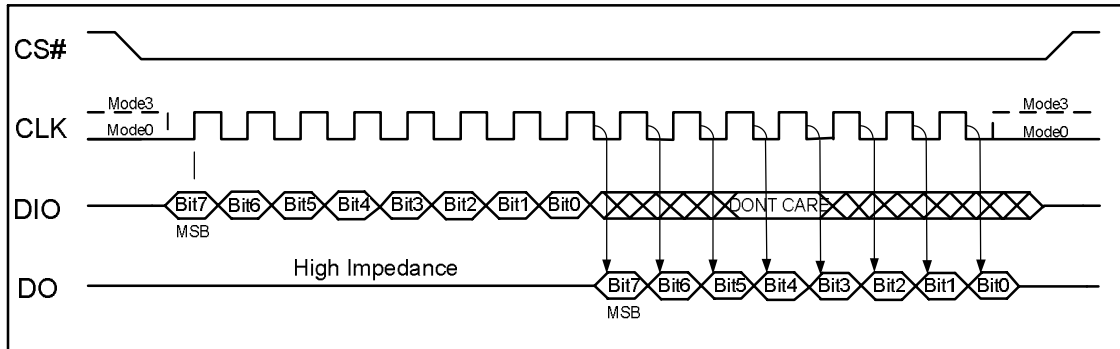

Figure 5, SPI Modes
The N25S32 are accessed through an SPI compatible bus consisting of four signals: Serial Clock (CLK), Chip Select (CS#), Serial Data Input / Output (DIO) and Serial Data Output (DO). Both SPI bus operation Modes 0 (0, 0) and 3 (1, 1) are supported. The primary difference between Mode 0 and Mode 3, as shown in Figure 5, concerns the normal state of the CLK signal when the SPI bus master is in standby and data is not being transferred to the Serial Flash. For Mode 0 the CLK is normally low. For Mode 3 the CLK is normally high. In either case data input on the DIO pin is sampled on the rising edge of the CLK. Data on the DO and DIO pins are clocked out on the falling edge of CLK.